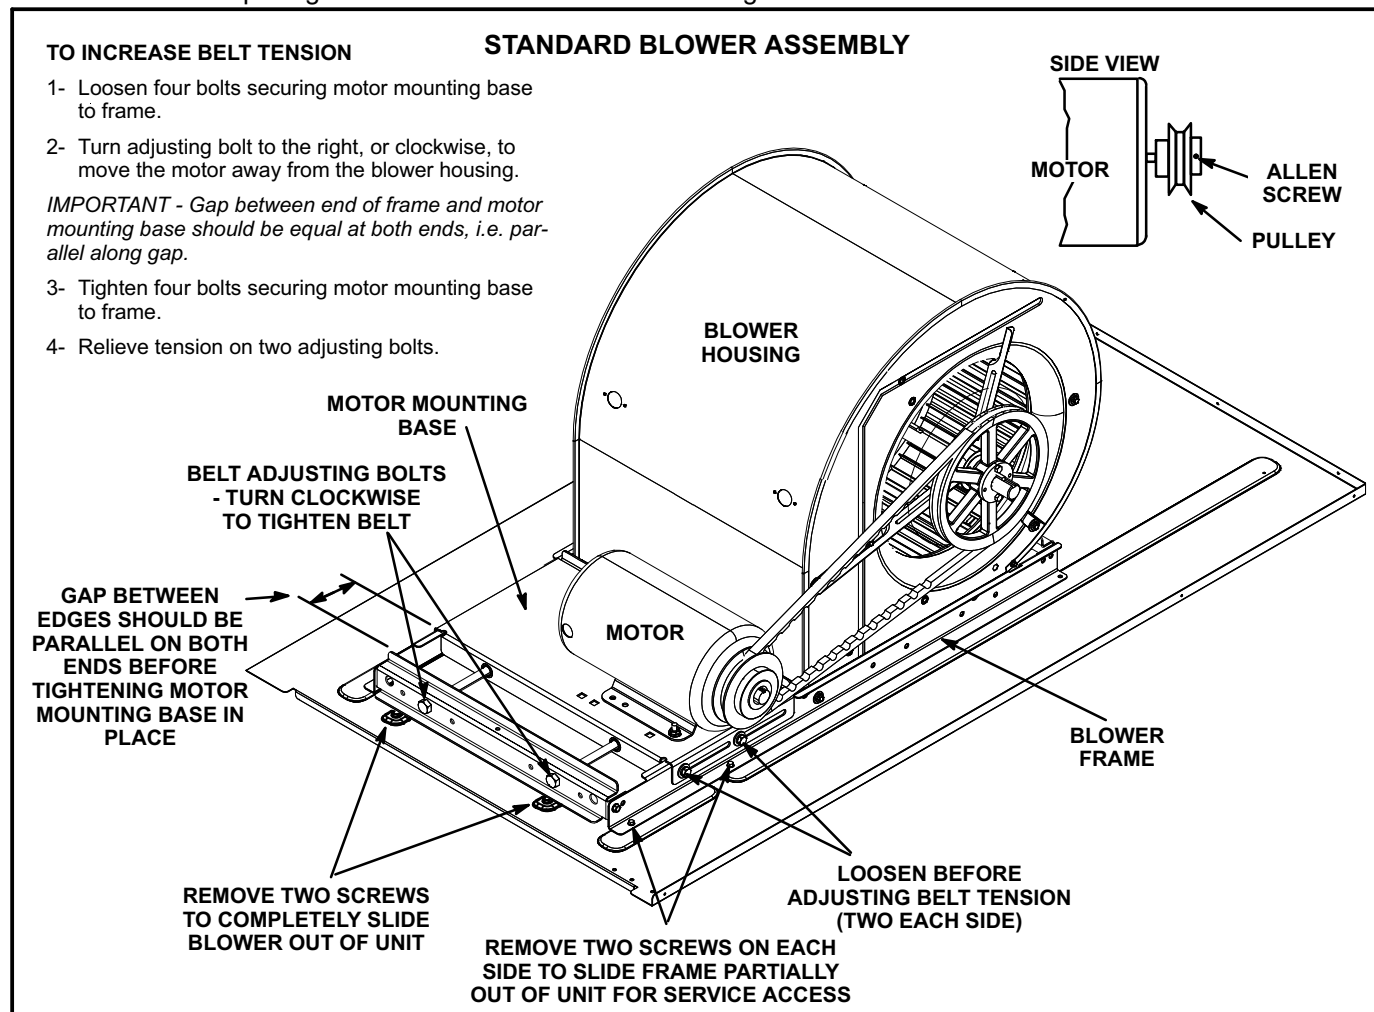

FIGURE 11
The blower assembly is secured to a sliding frame which allows the blower motor to be pulled out of the unit. See figure 11 and 12.
- 4- The blower RPM can be adjusted at the motor pulley. Loosen Allen screw and turn adjustable pulley clockwise to increase CFM. Turn counterclockwise to decrease CFM. See figure 11. Do not exceed minimum and maximum number of pulley turns as shown in table 1.
- 1- Loosen four bolts securing motor base to mounting frame. See figure 11.